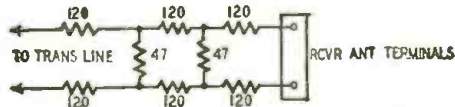

Fig. 4—Attenuation pad for weakening signal.
3. High distorted image, especially when the contrast control is in maximum position. Sound, however, is clear. The contrast control is a gain control employed in the video i.f. system (R131, Fig. 2). If the image can be partially restored to normal by lowering the setting of the contrast control, it is an indication that too strong a signal is being received. Alter the position of the antenna or insert an attenuation pad between end of transmission line and receiver input terminals. (See Fig 4.)